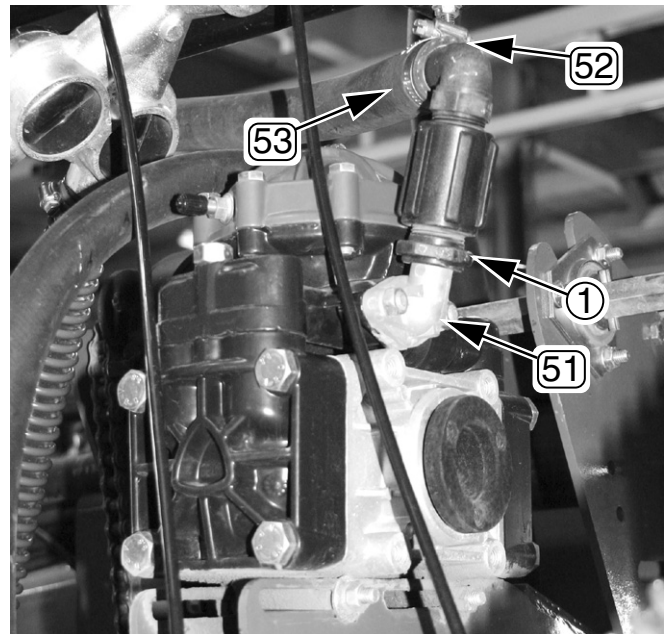

Figure 2
*Refer to Figure 2*
- ⑤② CLAMP WRM DRV #16 SS (.68-1.5)